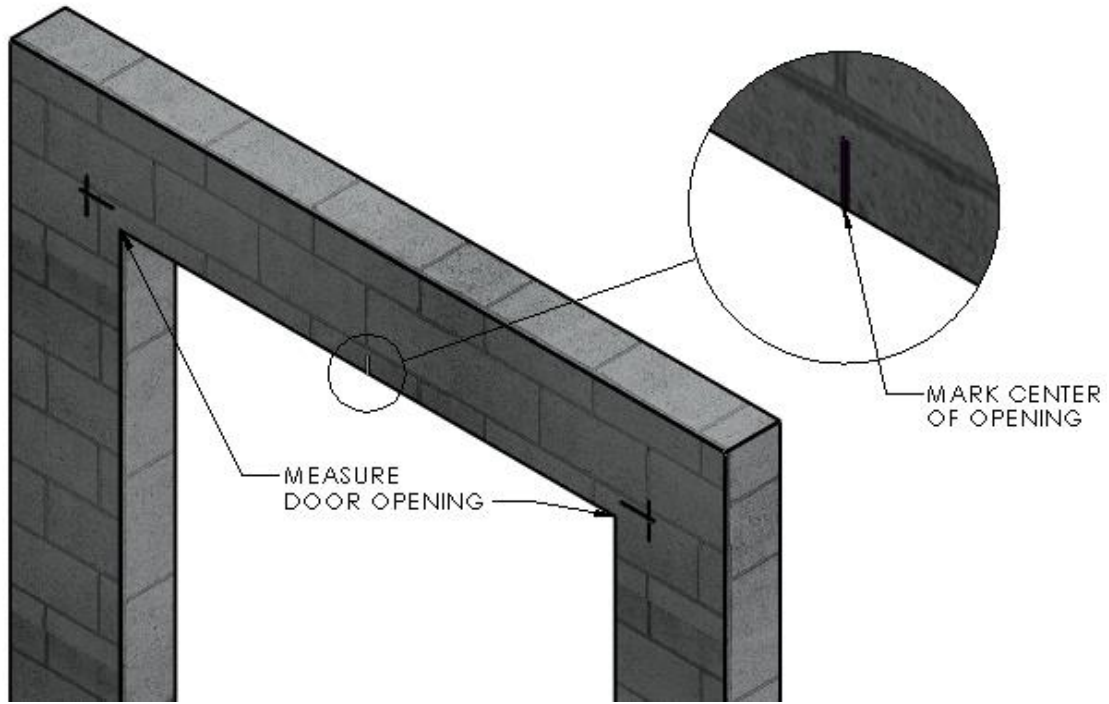

Figure 1 MEASURE/MARK OPENING
1. Measure the existing door width at the opening or frame from the outermost edges on each side near the top of the opening. Divide that overall width measurement in half to find and clearly mark the center of the top of the door frame or its header. (Figure 1 MEASURE/MARK OPENING)